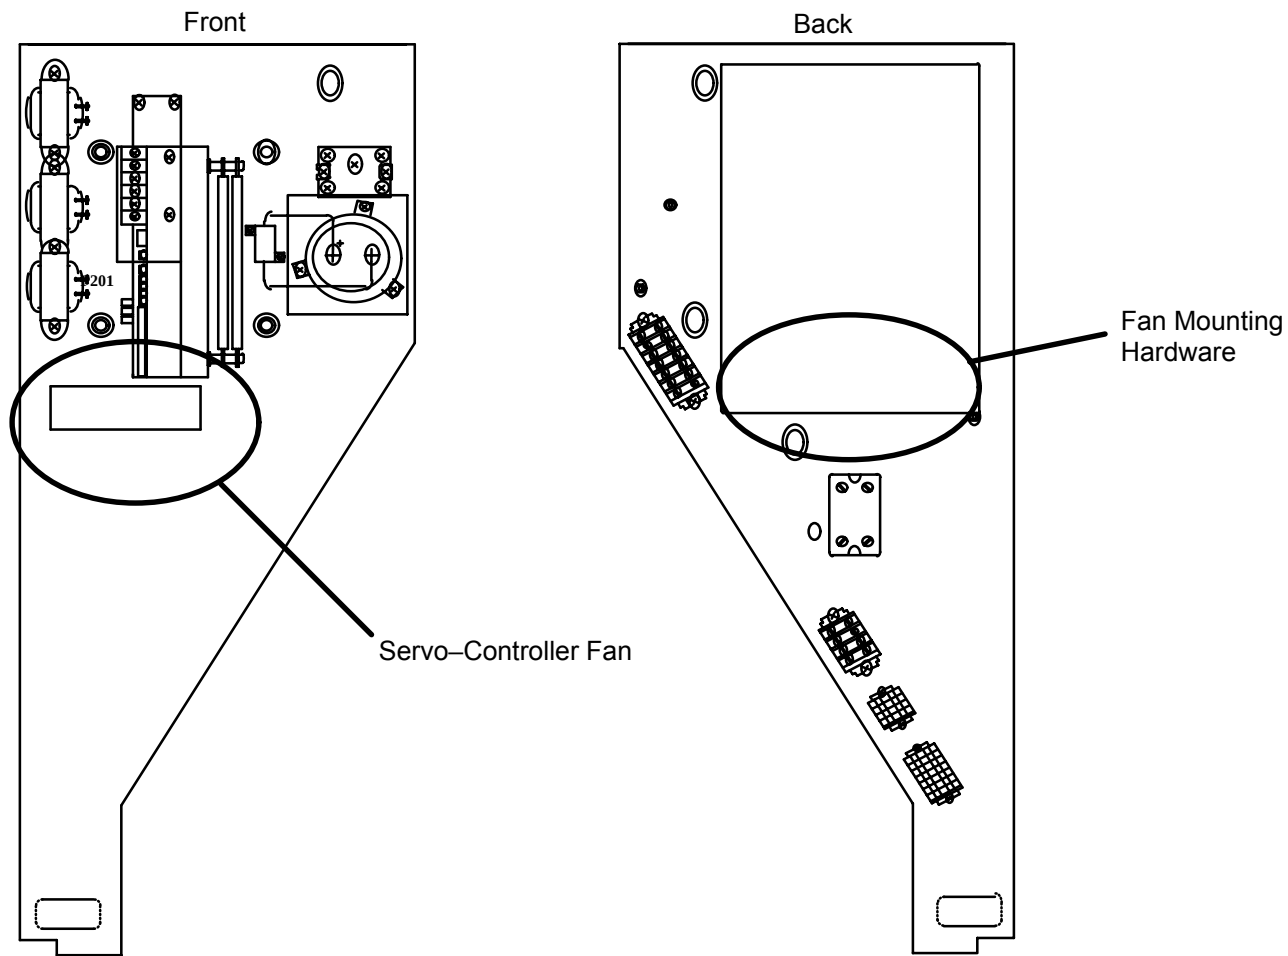

FIGURE 289 Servo-Controller Fan and Mounting Hardware
5. Remove the four Hex Nuts and Washers that secure the Fan to the Servo-Controller Figure 289.